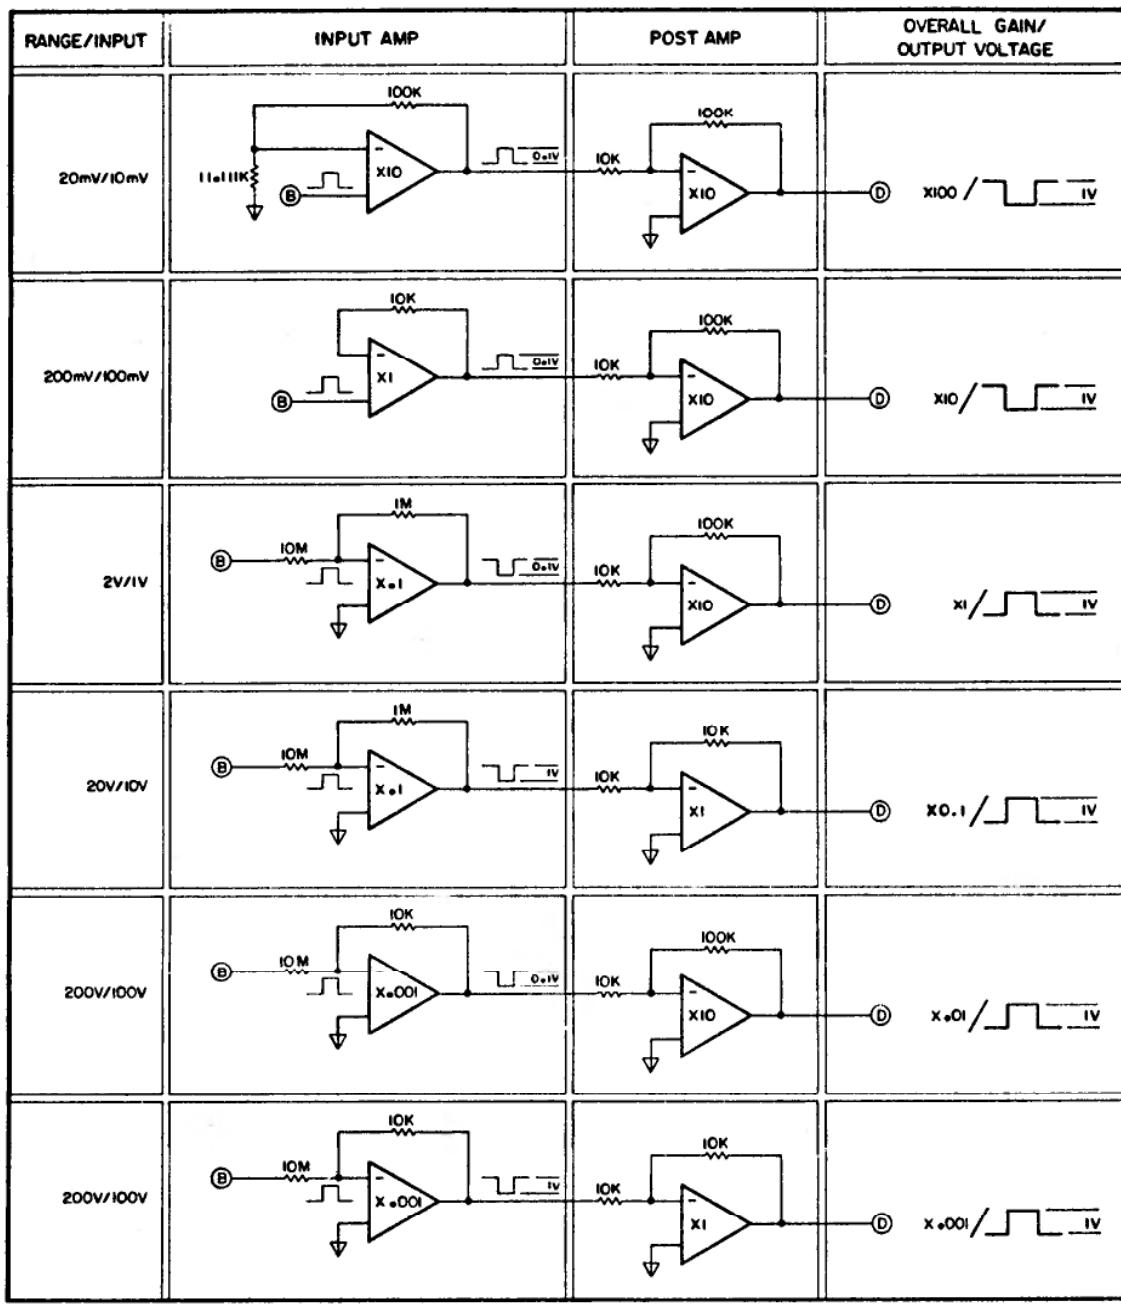

Figure 8-10. DC Gain Configuration
8-49. The voltage at the input to the A to D Converter (D) needs to stay within the limits of -1.9999 Vdc to $+1.9999$ Vdc to avoid setting the Multimeter display to an overload (OL) condition. The input voltage (B) must obviously be amplified or attenuated to keep the voltage at (D) within these limits. This is accomplished by the combined gains of the Input and Post amplifiers. Figure 8-10 shows the gain configuration for each of the six dc ranges.
8-50. The input voltage at (B) is applied to the input amplifier during integrator run-up only. Consequently, the input voltage to the Input Amplifier is a square wave as shown in Figure 8-10.